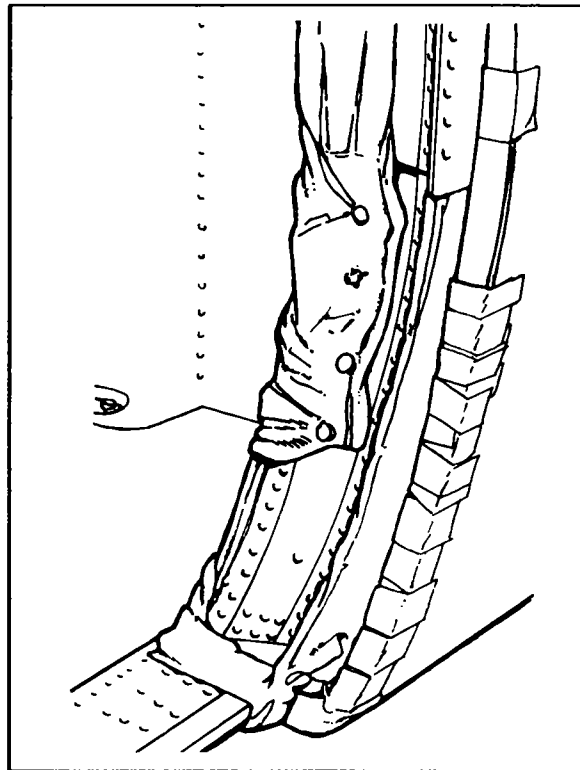

Figure 12-7. Door edge padded and taped.
(3) Tape cargo floor troop seat and tie-down fitting wells in front of the cargo doors.
(4) Tape sharp edges and tie-down fitting wells on the cargo floor and door jambs that could cut or fray static lines, or could snag parachutists' equipment.
(5) Tape the cargo door(s) weather stripping below the door catch (Figure 12-7).